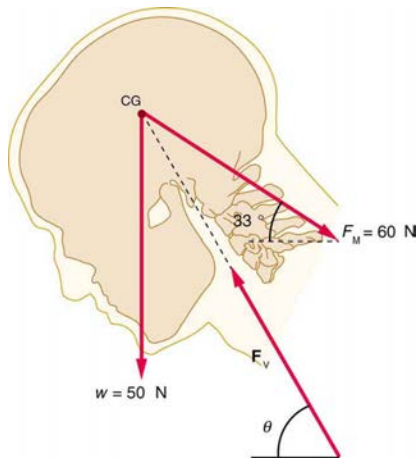

Figure 9.41
30. A person working at a drafting board may hold her head as shown in **Figure 9.41**, requiring muscle action to support the head. The three major acting forces are shown. Calculate the direction and magnitude of the force supplied by the upper vertebrae F_V to hold the head stationary, assuming that this force acts along a line through the center of mass as do the weight and muscle force.